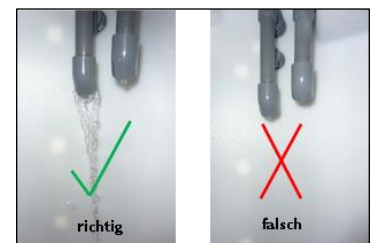

Figure 30, Return pipe
- d) No water should flow out of the return pipe (Figure 30) to the buffer tank. If water flows out, reduce the pressure control valve by **turning the adjusting screw clockwise** until no more water escapes.
- f) Set the pressure retention valve in a way that a finger-thick water jet flows out of the return line. This is necessary to cool the feed pump (see *Figure 30*).